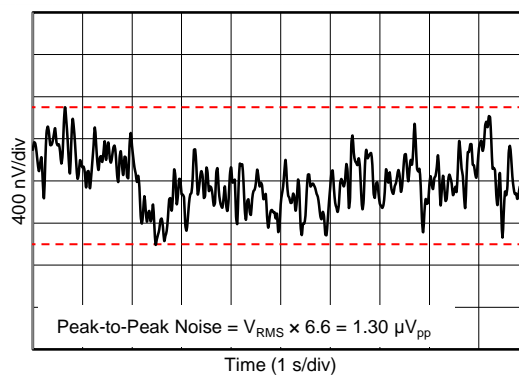

Figure 16. 0.1-Hz to 10-Hz NOISE
0.1-Hz to 10-Hz Noise	Figure 16